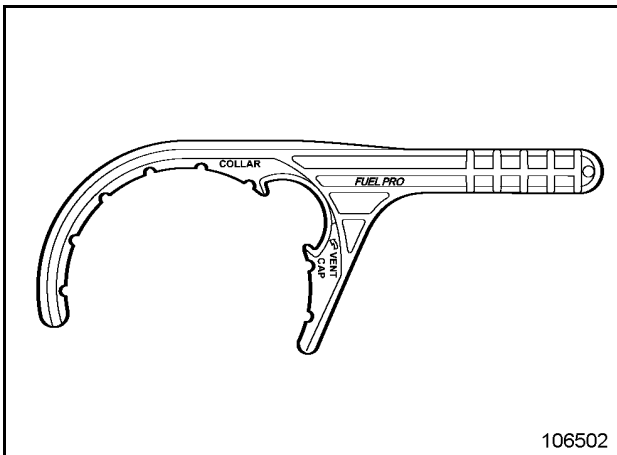
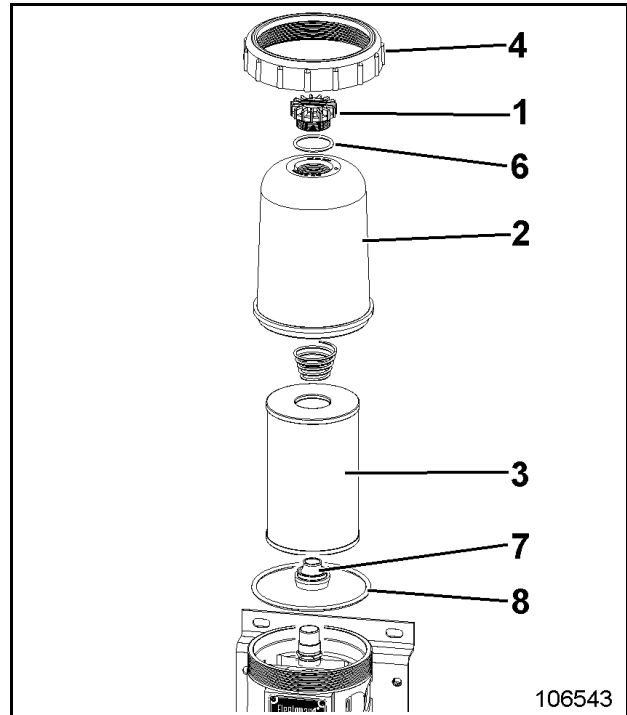

Fig. 3-52:
Fig. 3-53:
- Loosen the vent cap (1, Fig. 3-52:) on the filter to be replaced.
- Open the drain valve (5) and drain the fuel. Then close the drain valve (5).
- Using the collar / vent cap wrench (Fig. 3-53:) remove the clear cover (2, Fig. 3-52:) by removing the collar (4).